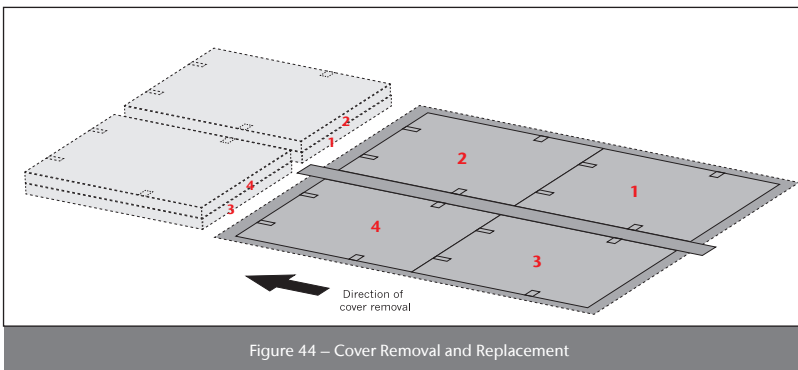

Figure 44 – Cover Removal and Replacement
4. For multipart covers, remove the covers in numerical order and stack at the end of the row to ensure they are reinstalled in the same position. See **Figure 44**.
5. For multiparts, replace in reverse order to ensure each cover is returned to its correct position. See **Figure 44**.